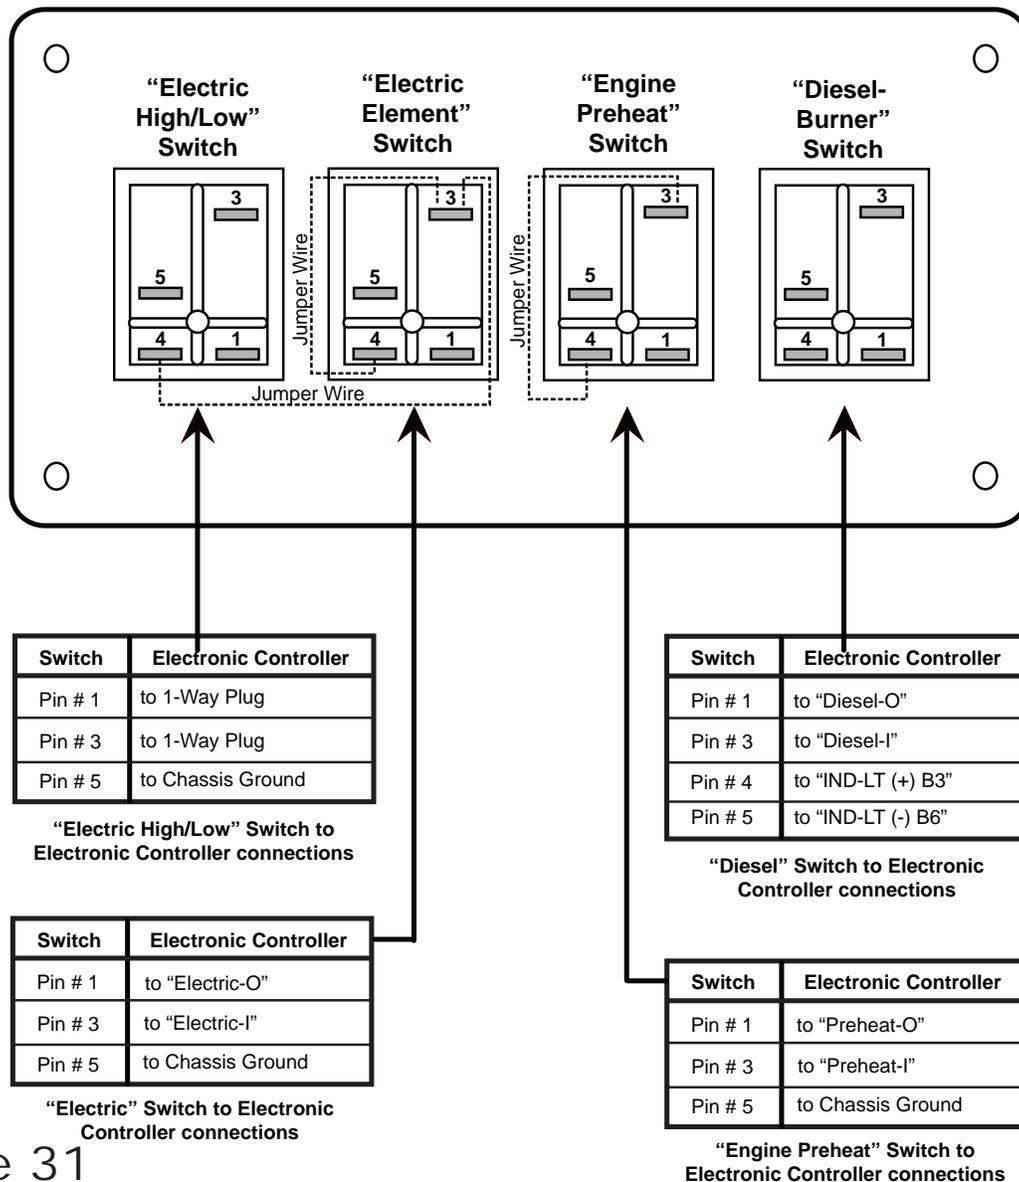

Figure 31
NOTE: Be sure to attach “Jumper Wires” where necessary. Reference Figure 31.
3. Connect all switch wires to the appropriate switch connections as illustrated in Figure 31. Reference Appendix A for additional wiring information.